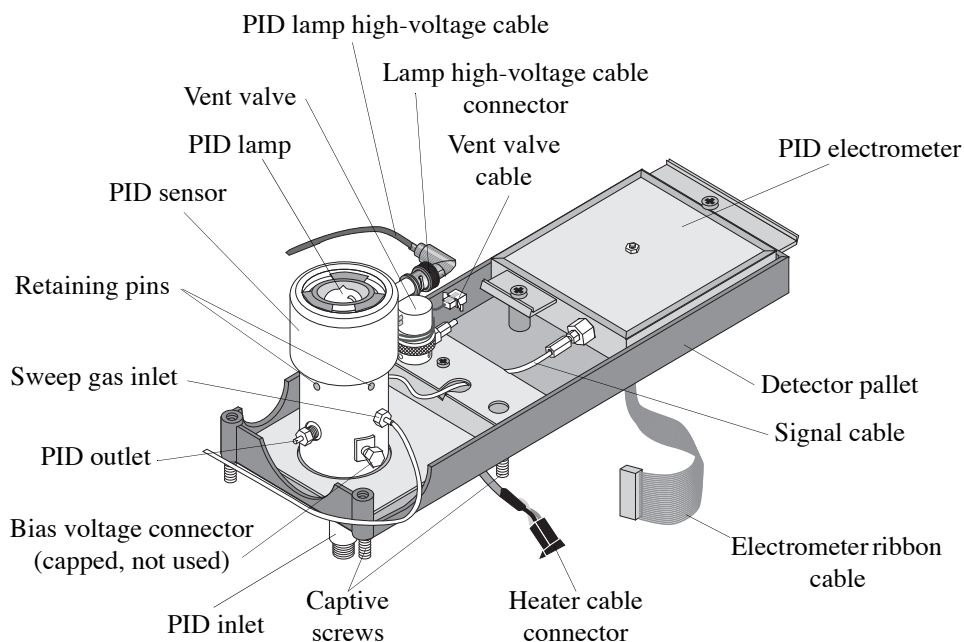

Figure 2.1. Model 4430 detector assembly
4. Align the holes of the detector pallet assembly with the holes in the top of the GC. Tighten the four captive screws on the detector pallet (Figure 2.1) using a T-20 Torx screwdriver to secure the pallet assembly to the top of the GC.